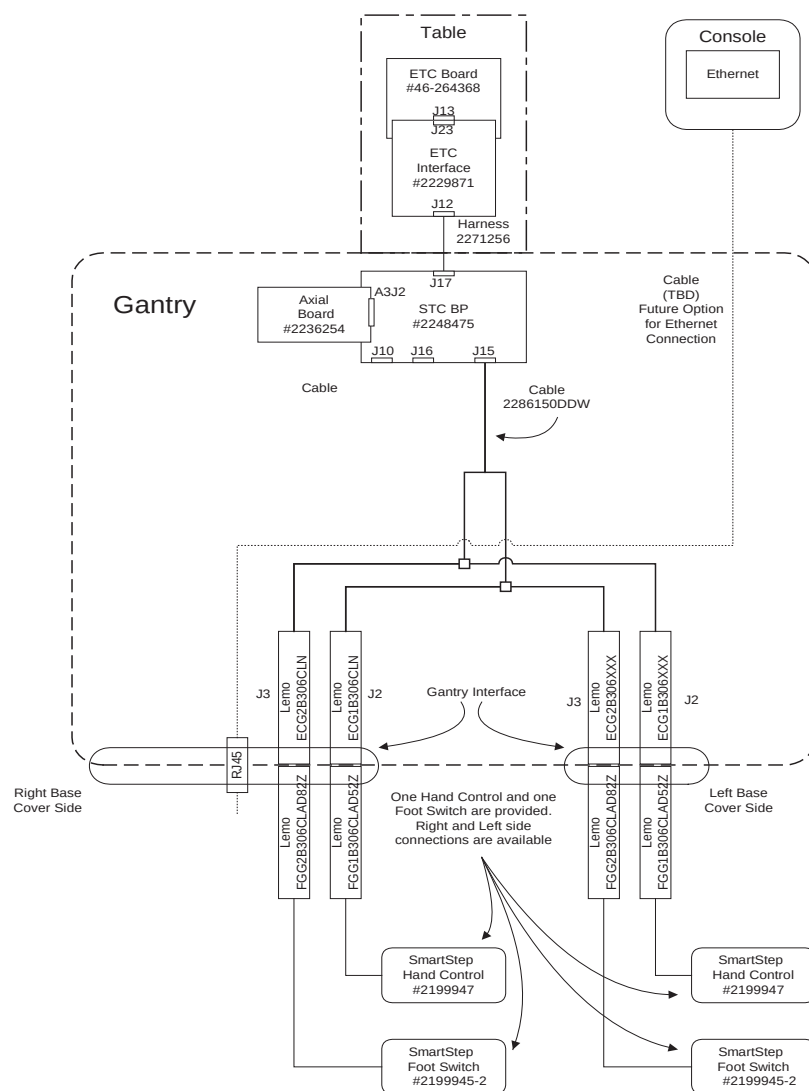

Figure 2-1 SmartStep Interconnect and Functional Drawing
The information in this Chapter applies to LightSpeed 2.X (Plus), LightSpeed 3.X (Ultra) and LightSpeed 4.X (16) CT systems, as well as Discovery ST (w/ 16/8/4-Slice CT Gantry) PET systems. The SmartStep hardware is shipped ready for immediate installation. The following installation procedure describes how to install that hardware on the gantry. See Figure 2-1 for a general layout of cabling and connections. Refer to Table 2-1, on page 24 for a listing of the parts in the kit.